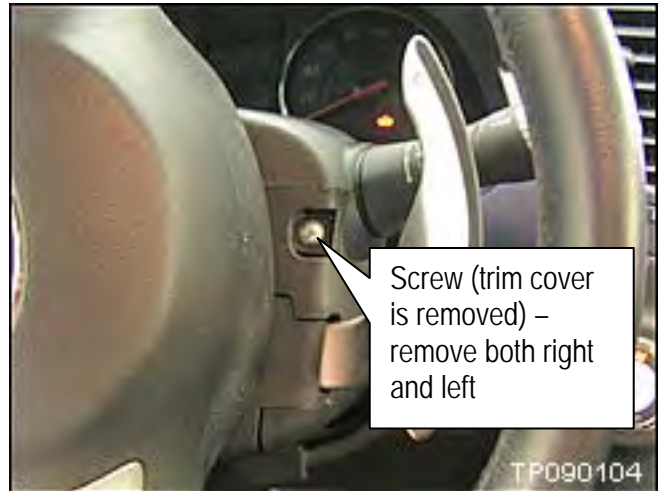

Figure 3
- b. Remove the trim cover that's covering the screw shown in Figure 3.
- c. Remove the screw shown in Figure 3.
- e. Remove the left side trim cover and screw just like the one shown in Figure 3.